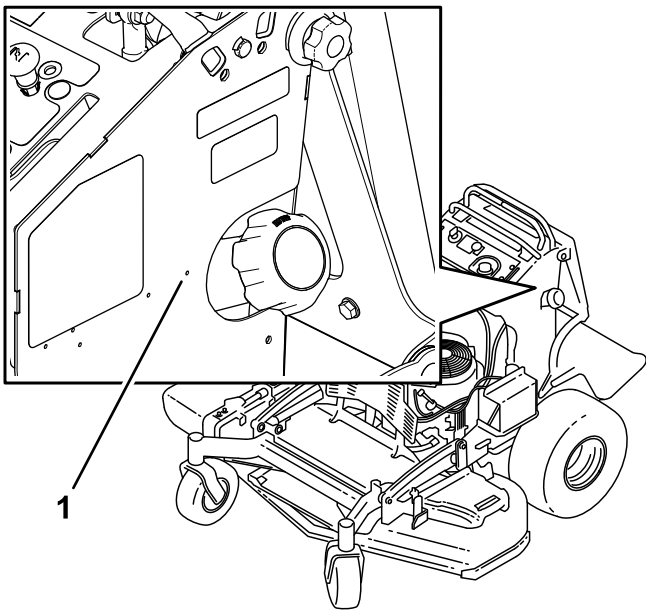

Figure 1
2. Locate and drill a 3/8-inch hole into the pilot hole on the left side of the machine (Figure 1).